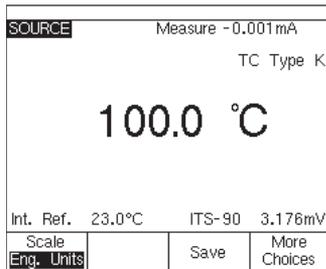

Figure 3
4. Next depress the "MEAS/SOURCE" button; now you are in the source screen. Since you want to source a thermocouple, press "TC/RTD" once. Use the down arrow to move the cursor to "K" and then press "ENTER." (On a 741 or 743, select "Linear T" and press ENTER.) The DPC will respond with "?????" asking for a temperature to source. Depress "100" and "ENTER" (Figure 3).